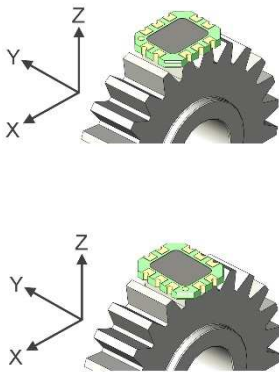
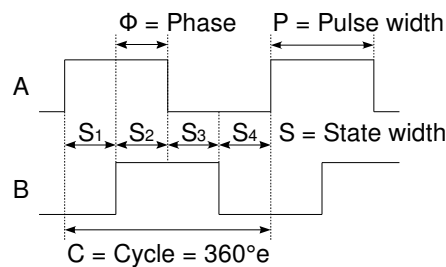

Fig. 1 Coordinate system XYZ.
Fig. 2 Encoder output signals A and B in quadrature.
The ID4501G incremental encoder kit consists of an encoder and a gearwheel (Fig. 1). The encoder is an integrated circuit in a PCB housing in SMD-format. It provides incremental A and B output signals in quadrature (Fig. 2). The gearwheel is in ferromagnetic steel and has a module 0.5. The orientation of the encoder is selected in Table 1.
- Airgap Distance between encoder and gear in Z-direction. See Fig. 1.
- Cycle One A quad B period, see Fig. 2.
- Phase shift Φ Number of electrical degrees between the center of the high state of channel A and the center of high state of channel B. Nominal 90°e. Fig. 2.
- Pulse width P Number of electrical degrees that an output is high during one cycle. Nominal 180°e. Fig. 2.
- State width S Number of electrical degrees between two neighbouring A and B transitions. Nominal value is 90°e. See Fig. 2.